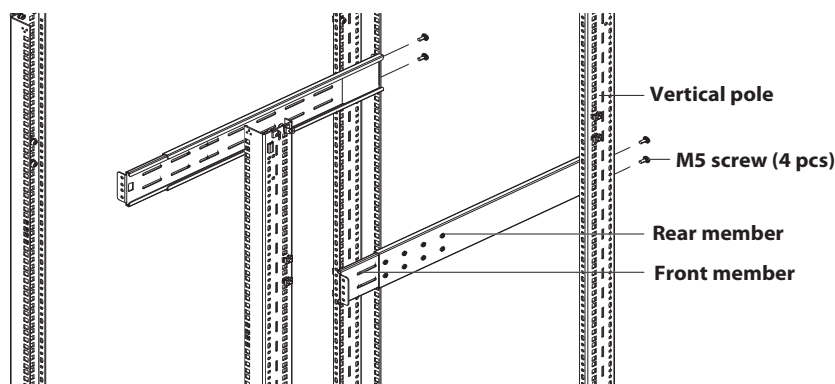

Figure 9: Installing rear member of each bracket assembly
4. Attach the rear member of each bracket assembly to the rack's rails with two factory-supplied M5 screws (see Figure 9).